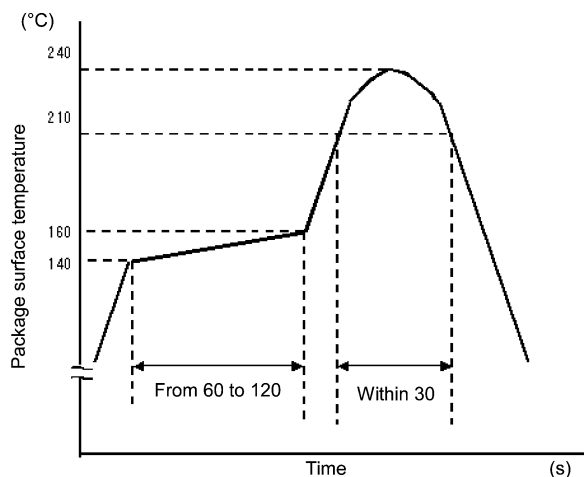

Fig. 13.1.1 An Example of A Temperature Profile When Sn-Pb Eutectic Solder Is Used
- When using soldering reflow (See Fig. 13.1.1 and 13.1.2)